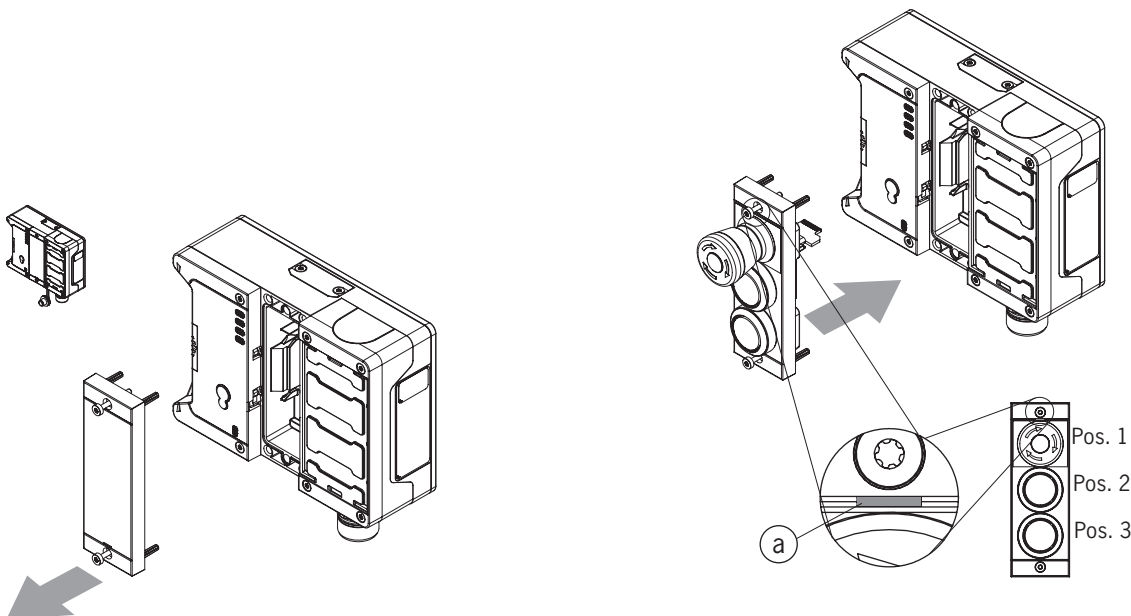

Fig. 11: Mounting submodule
- Pay attention to the alignment of the submodule. See marking (a) in *Fig. 11: Mounting submodule*. Submodules can also be installed rotated by 180°. The marking (a) always indicates the first position to be equipped. This is the emergency stop S1 position in the example below.